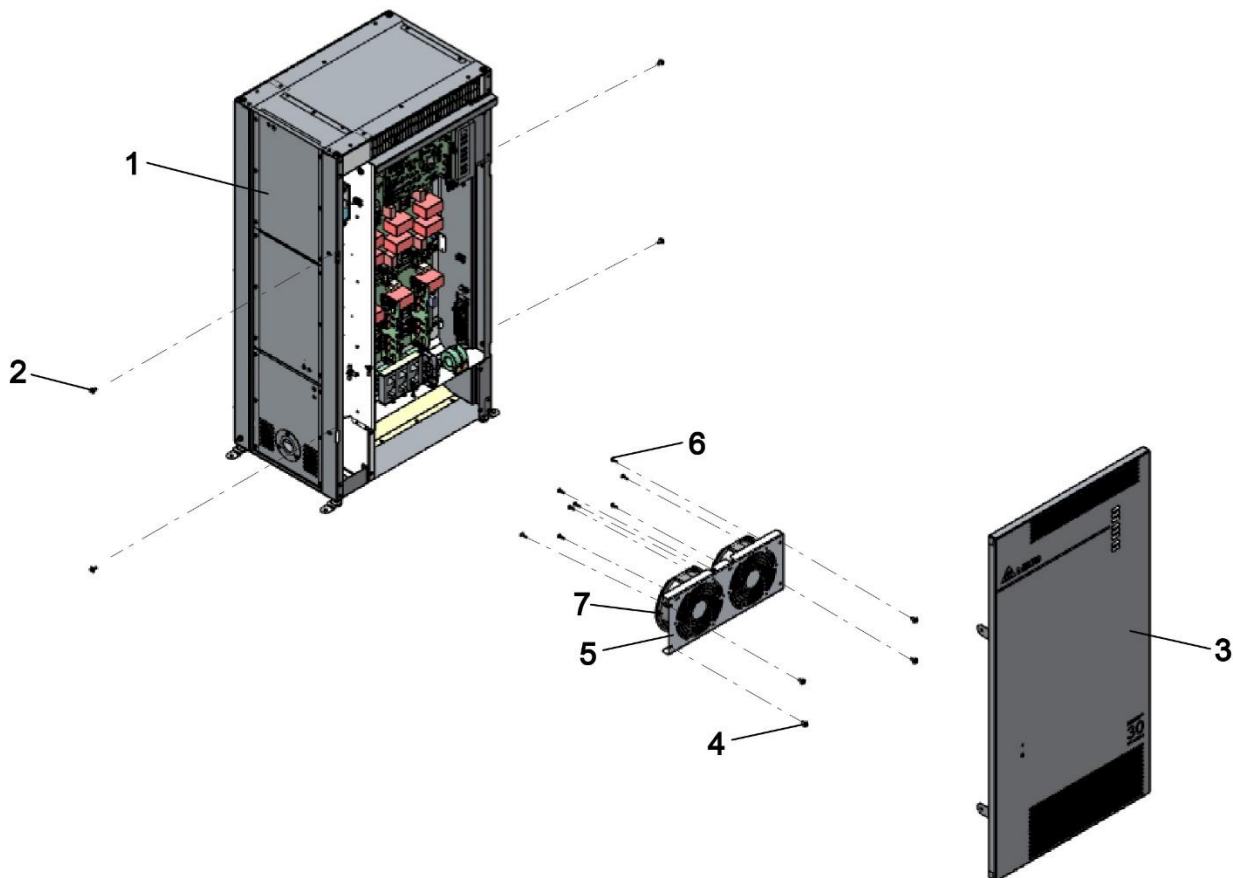

Figure. 31 WPB – Accessing Fan Panel Assembly WPB
- Remove the four screws M6 (2) and remove the front cover (3). See Figure. 31.
- Remove the four screws (4) and remove Fan Panel Assembly (5).
- Clean the fans (7) with a dry cotton cloth or with a vacuum cleaner.
6. Once cleaning is complete, install the fan panel assembly (5) with screws (4).
7. Install the front cover (3) with the four screws M6 (2).
2. Remove the four screws M6 (2) and remove the front cover (3). See Figure. 31.
3. Remove four screws (4) and remove Fan Panel Assembly (5).
4. Remove the press button screws (6) and remove the fans (7).
5. Install the new fans (7) with press button screws (6).
6. Install the Fan Panel Assembly (5) with four screws (4).